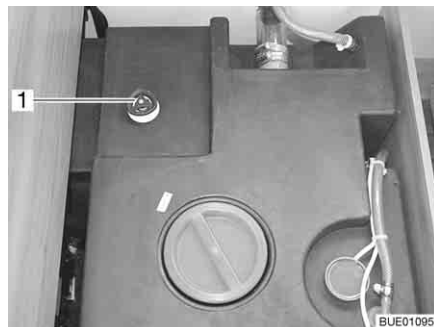

Fig. 202 Water tank with handle
- Turn the handle (Fig. 202,1) on the water tank in an anticlockwise direction as far as possible beyond the resistance to fully open the drainage opening.